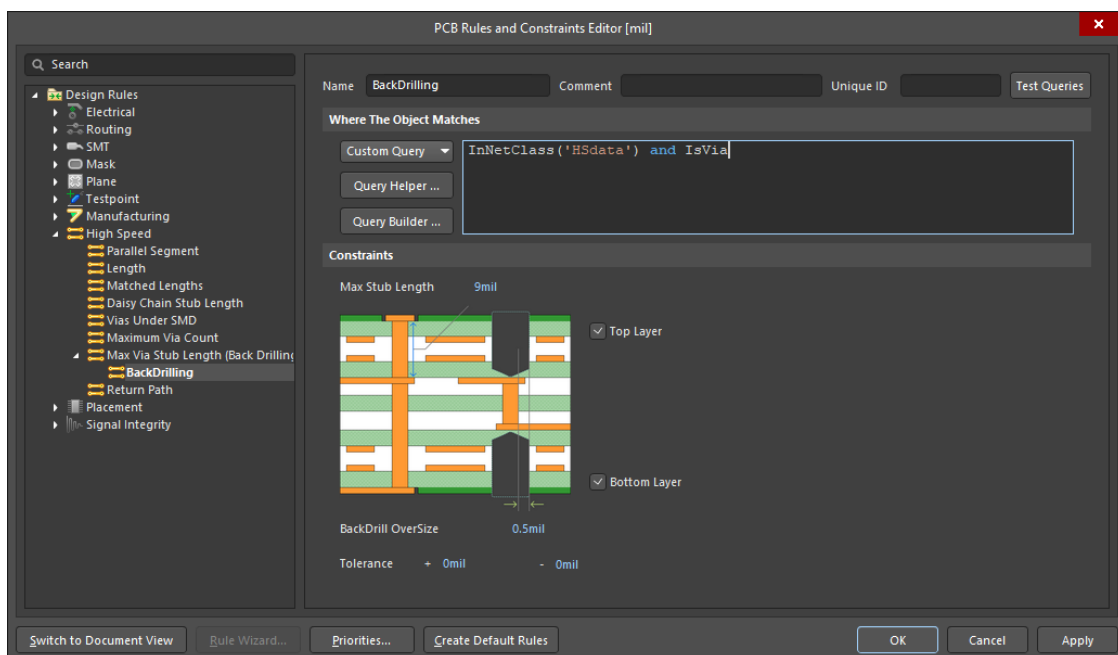

Figure 9. Using Custom Query to limit Rule to Vias with the nets of the Net Class HSdata
23. This would work well enough on the current design, but to illustrate the capability of the Rules, you can limit the rule to only Vias associated with the HSdata Net Class using the Custom Query option: `InNetClass('HSdata')` and `IsVia`, Figure 9.